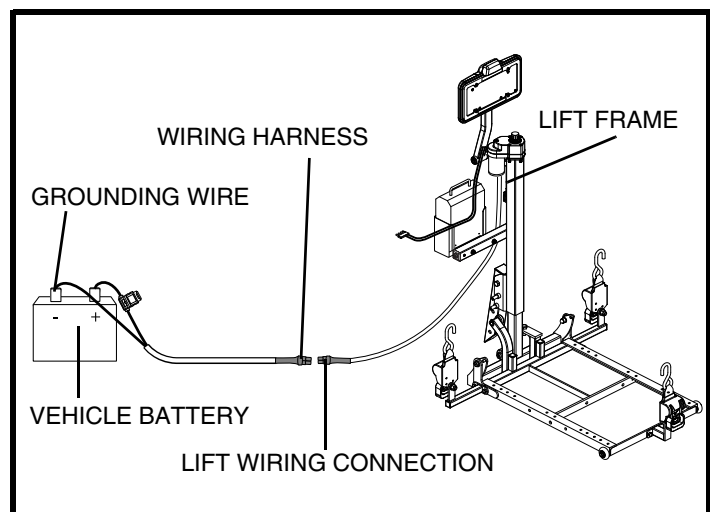

Figure 8. Wiring Harness Installation
1. Route the lift system wiring harness (starting at the lift) through the interior of the vehicle until you reach the vehicle battery. See **figure 8**. You will typically find pass-through points at the rear lighting assemblies, which will enable you to route the cable through the trunk and under the back seat.